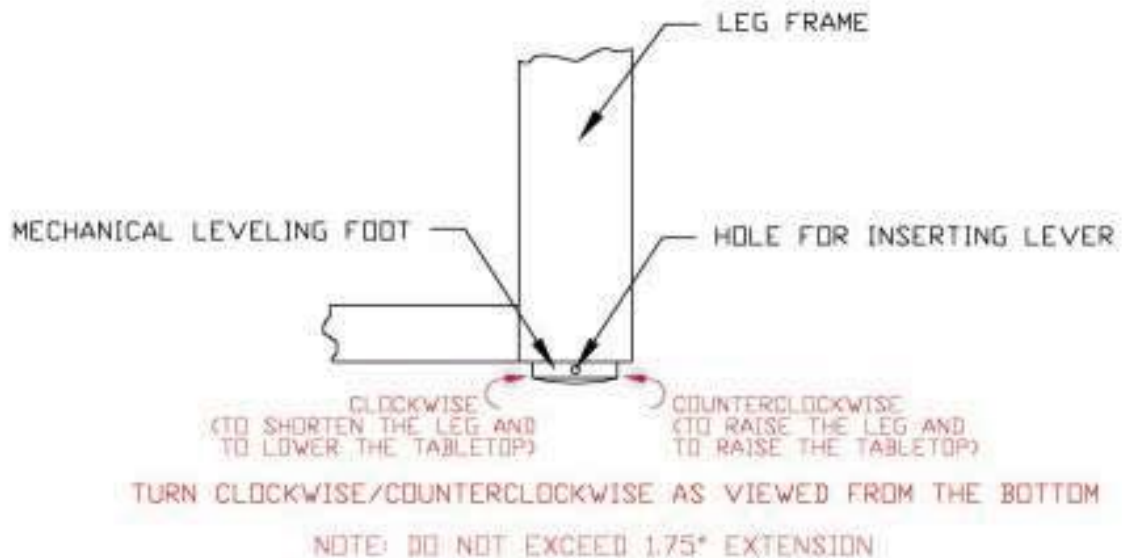

Fig. 2 Mechanical Leveling Foot Height Adjustment
2. Remove the protective wood blocks from the bottom of each leg. The Mechanical Leveling Feet are fully retracted for shipping. Rotate each foot COUNTERCLOCKWISE (See Fig. 2) so that they extend $\frac{3}{4}$ to 1" below bottom of the leg.
6. After the table is moved to its final destination, place a carpenter's level diagonally across the Tabletop or use the built-in levels on the Tabletop to check for level condition in all directions. If an out-of-level condition is detected, adjust the Leveling Feet by inserting a thin rod or screwdriver (as shown in Fig. 2) into the hole on the side of the Leveling Foot. Looking from the bottom, rotate the leveling foot CLOCKWISE to shorten the leg and lower the Tabletop. Rotate the foot COUNTERCLOCKWISE to lengthen leg and raise Tabletop. After leveling the tabletop, ensure that all the four leveling feet are in contact with the floor. If any gap is observed, rotate the leveling foot counterclockwise to close the gap as shown in Fig. 2. Check the tabletop level and repeat if necessary.